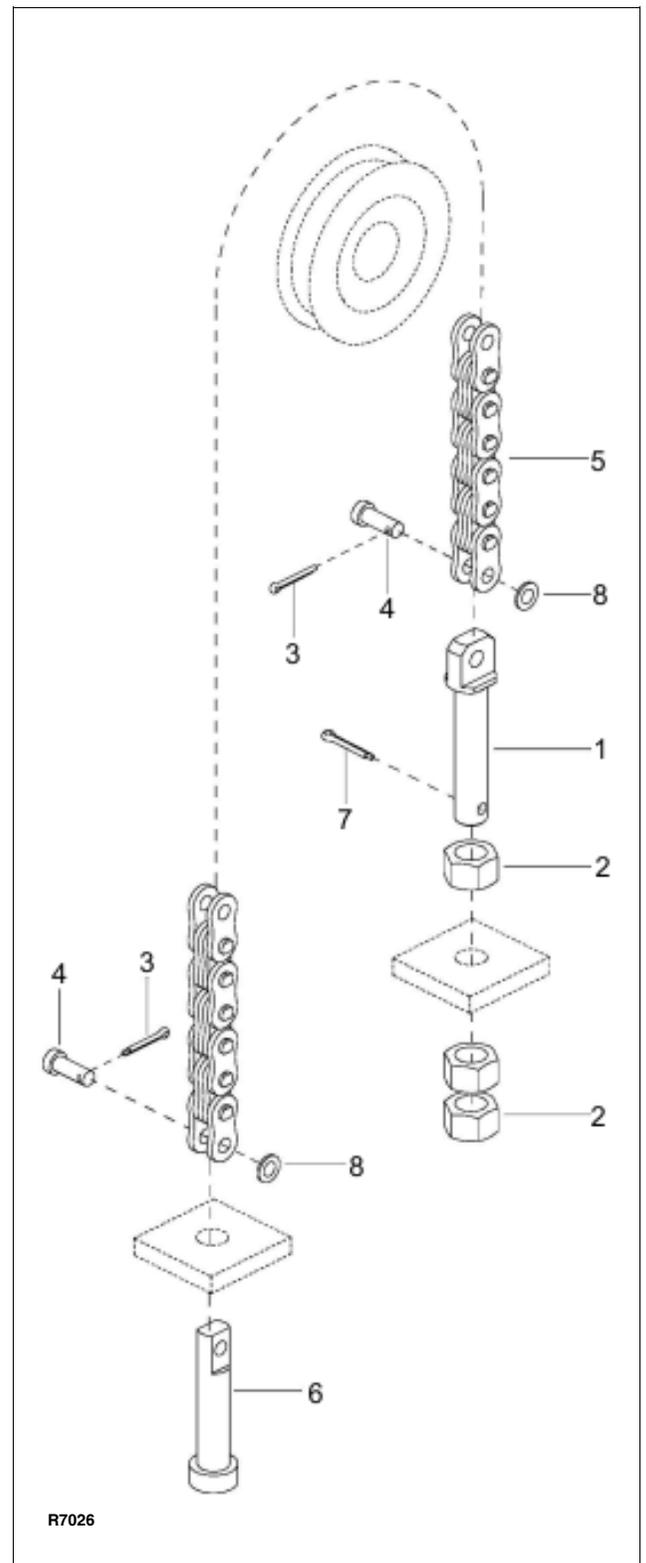
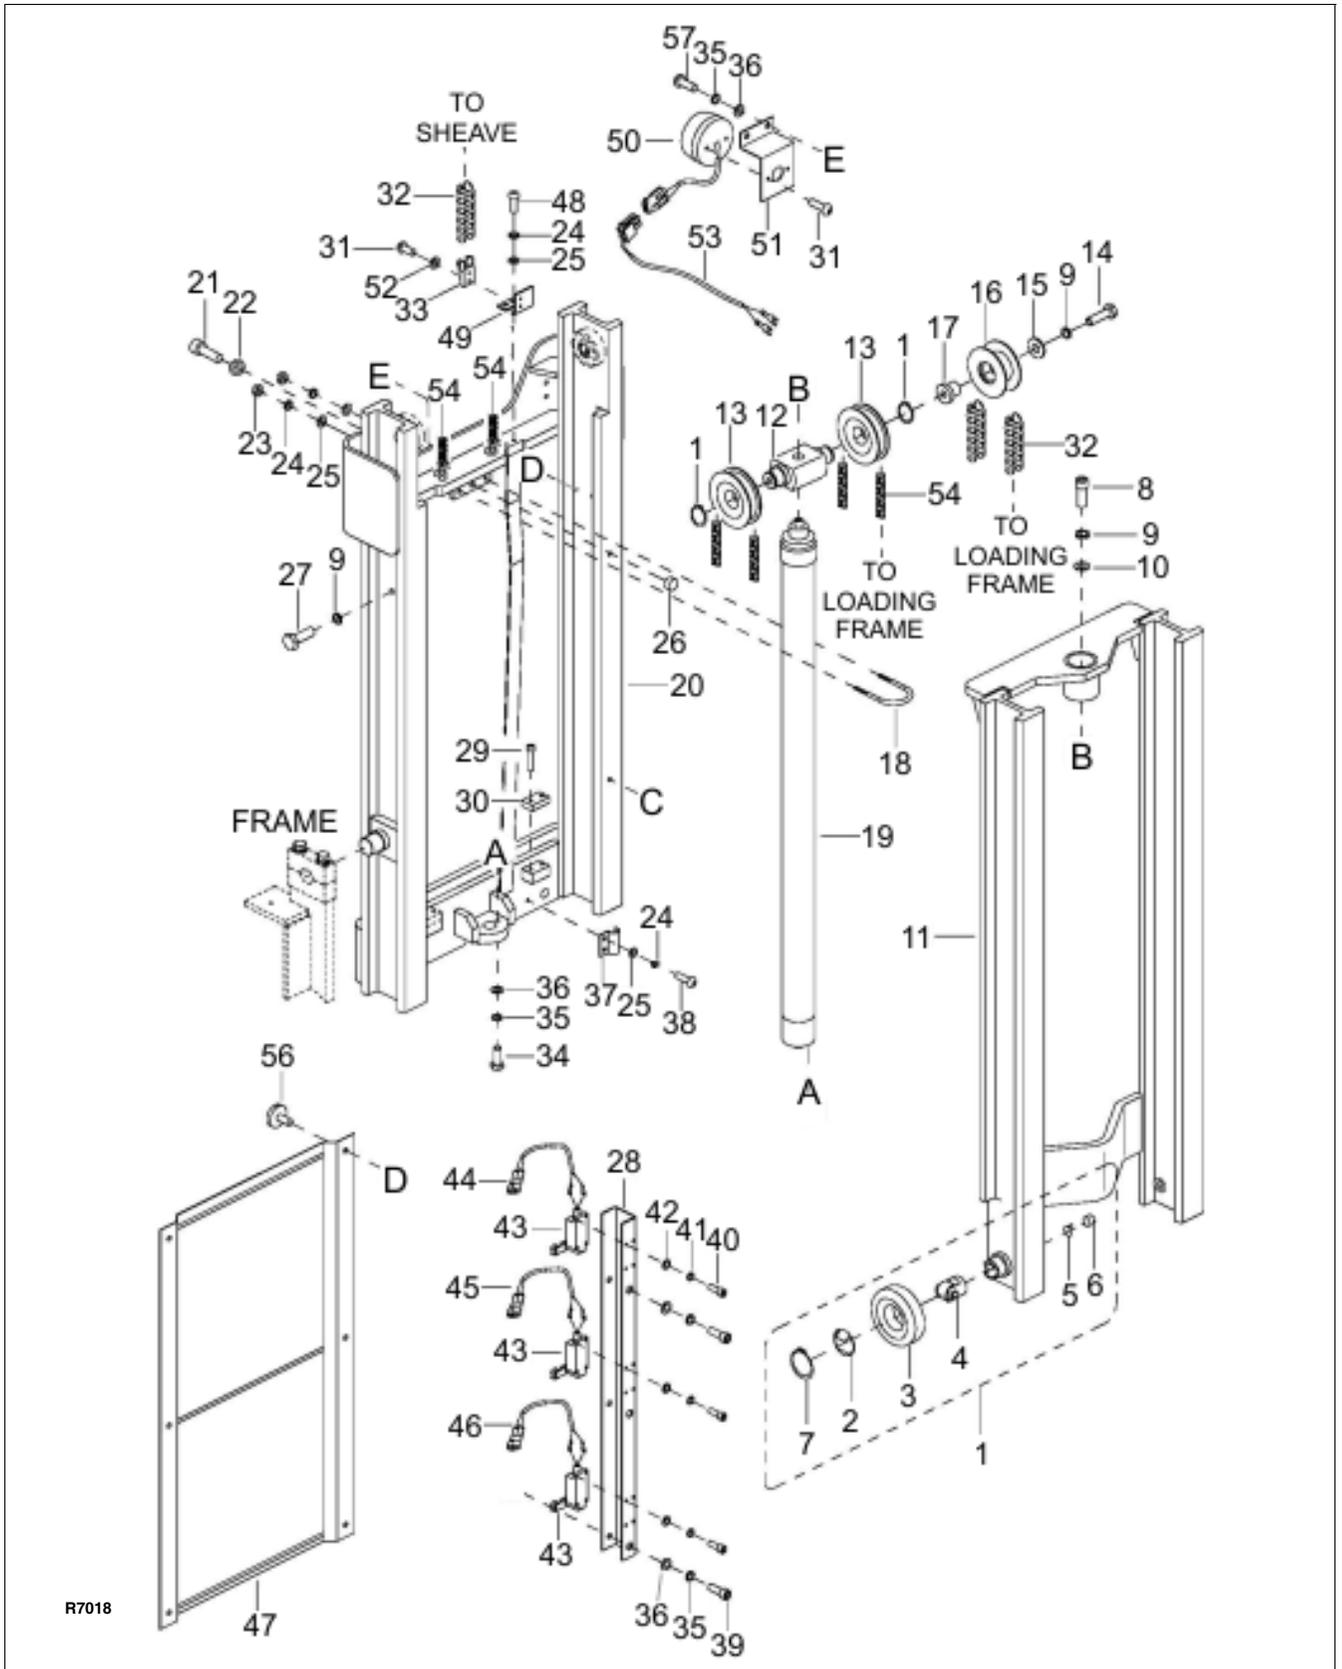

Figure 7-1 Chain Assembly
Figure 7-2 Elevation System (Telescopic)
3. Loosen jam nut (2, Figure 7-1) to allow for adjustment of middle jam nut.
4. Break the lower jam nut (2) free from the middle jam nut (2).
5. Take up slack in the lift chain with middle jam nut (2).
6. Align anchor (1) so the clevis pin (4) is parallel to the mast.
4. Remove cotter pin (3, Figure 7-1), flat washer (8), clevis pin (4) and anchor (6) connecting chain (5) to loading frame (11, Figure 7-5).
5. Remove cotter pin (3, Figure 7-1), flat washer (8) and clevis pin (4) connecting chain (5) to adjusting screw (1) at the outer mast (20, Figure 7-2).
6. Remove chain from sheave (13).
7. Position new chain on sheave (13).
8. Secure chain (5, Figure 7-1) to adjusting screw (1) with clevis pin (4), flat washer (8) and cotter pin (3).
4. Remove cotter pin (3, Figure 7-1), flat washer (8), clevis pin (4) and anchor (6) connecting chain (5) to inner mast (49, Figure 7-3).
5. Remove cotter pin (3, Figure 7-1), flat washer (8) and clevis pin (4) connecting chain (5) to adjusting screw (1) at the outer mast (1, Figure 7-3).
6. Remove chain from sheave (14).
7. Position new chain on sheave (14).
8. Secure chain (5, Figure 7-1) to outer mast (1, Figure 7-3) with adjusting screw (1), clevis pin (4), flat washer (8) and cotter pin (3).
9. Connect the opposite end of chain to the inner mast (49, Figure 7-3) with anchor (6, Figure 7-1), clevis pin (4), washer (8) and cotter pin (3).
4. Remove cotter pin (3, Figure 7-1), flat washer (8), clevis pin (4) and anchor (6) connecting chain (5) to lift cylinder (18, Figure 7-3).
5. Remove cotter pin (3, Figure 7-1), flat washer (8) and clevis pin (4) connecting chain (5) to adjusting screw (1) at loading frame (49, Figure 7-3).
7. Position new chain on sheave (17).
8. Secure chain (5, Figure 7-1) to loading frame (49, Figure 7-3) with adjusting screw (1, Figure 7-1), clevis pin (4), flat washer (8) and cotter pin (3).
9. Connect the opposite end of chain to the lift cylinder (18, Figure 7-3) with anchor (6, Figure 7-1), clevis pin (4), washer (8) and cotter pin (3).